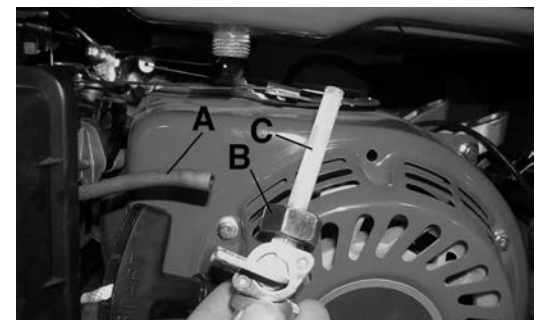

Figure 11
- 1) Once the tank and carburetor are drained of all gasoline, disconnect the fuel hose (A) Fig.11 from the fuel cock and then dismantle the fuel cock nut (B) from the tank.
- 2) Remove the fuel cock from the tank to expose the fuel filter (C). Clean the fuel filter.